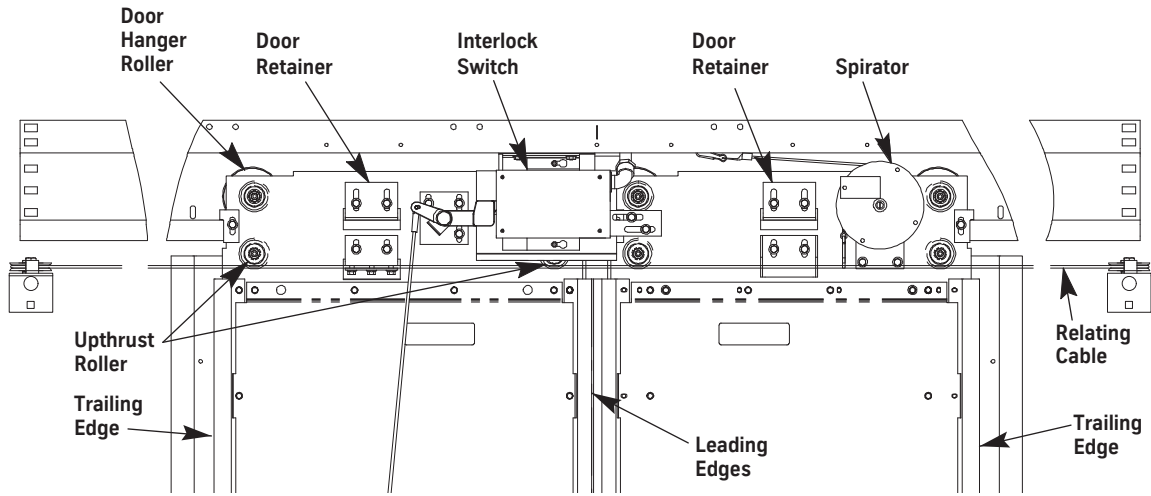

Figure 61 - Door Rollers
4. Loosen all upthrust rollers. See Figure 61 on page 7-71.